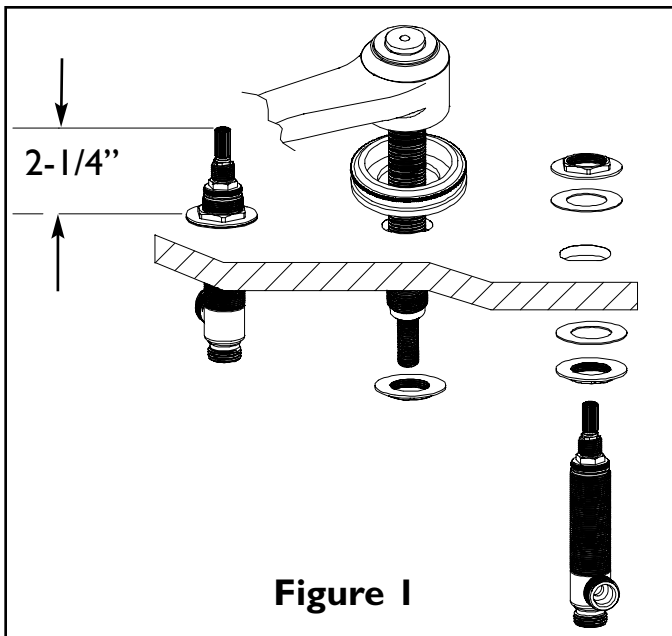

Figure 1
1. Place the spout shank through center hole of mounting surface. Secure spout, (spout base ring, if supplied), into place with spout washer and nut. See Fig. 1
2. Place nut & washer on valve body. Insert body, (blue cold & red hot), through hole in the mounting surface. Adjust and secure with additional washer and nut so that the top of valve is 2-1/4" above the top of mounting surface. See Fig. 1